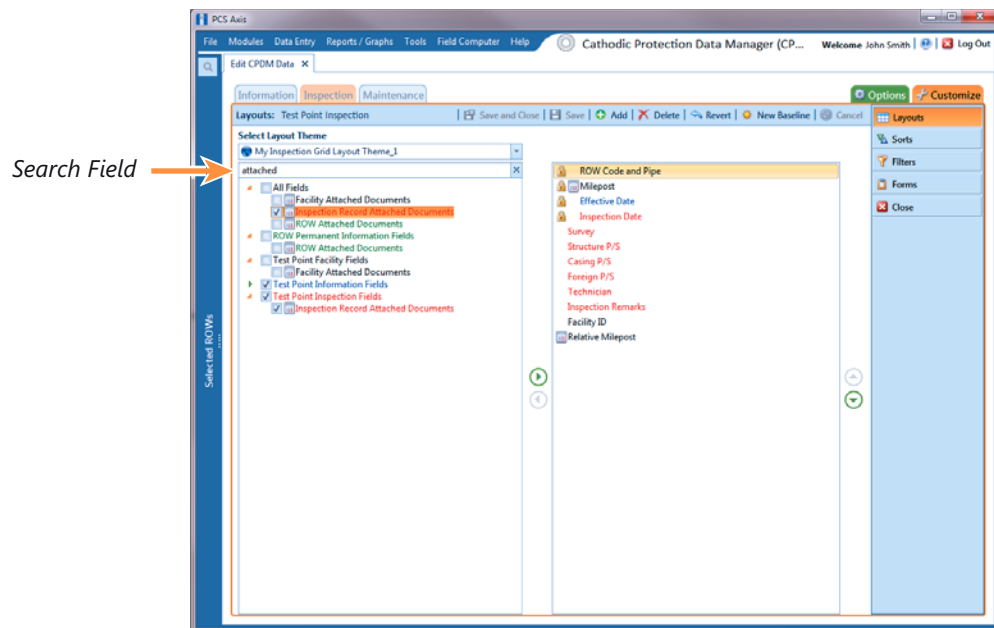

Figure 7-101. Layouts
- a Click the check box for the field **Inspection Record Attached Document** in the left pane of the window (Figure 7-101, page 320).